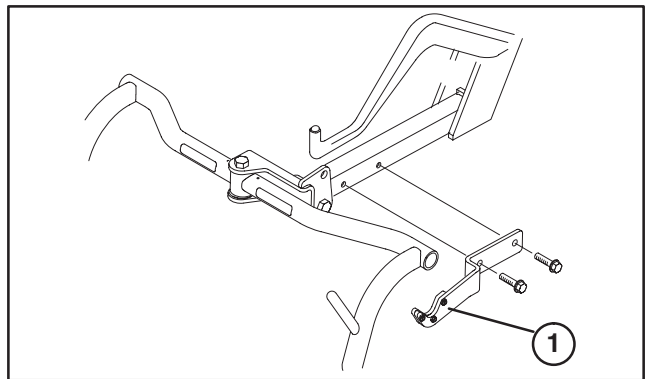

Figure 8
9. Mount a transport plate to left side of rear lift arm with (2) 3/8–16 x 5/8" lg. thread forming screws (Fig. 8).